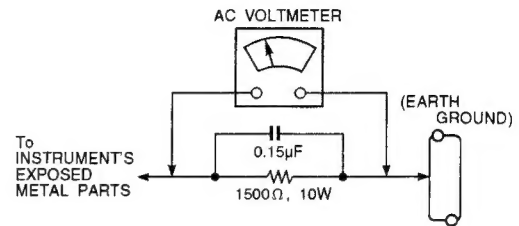

Fig.1
- 5-2 Connect a 1500 ohm, 10 watt resistor, paralleled by a 0.15 μ F capacitor between each exposed metallic part and a good earth ground (as shown in Fig. 1).